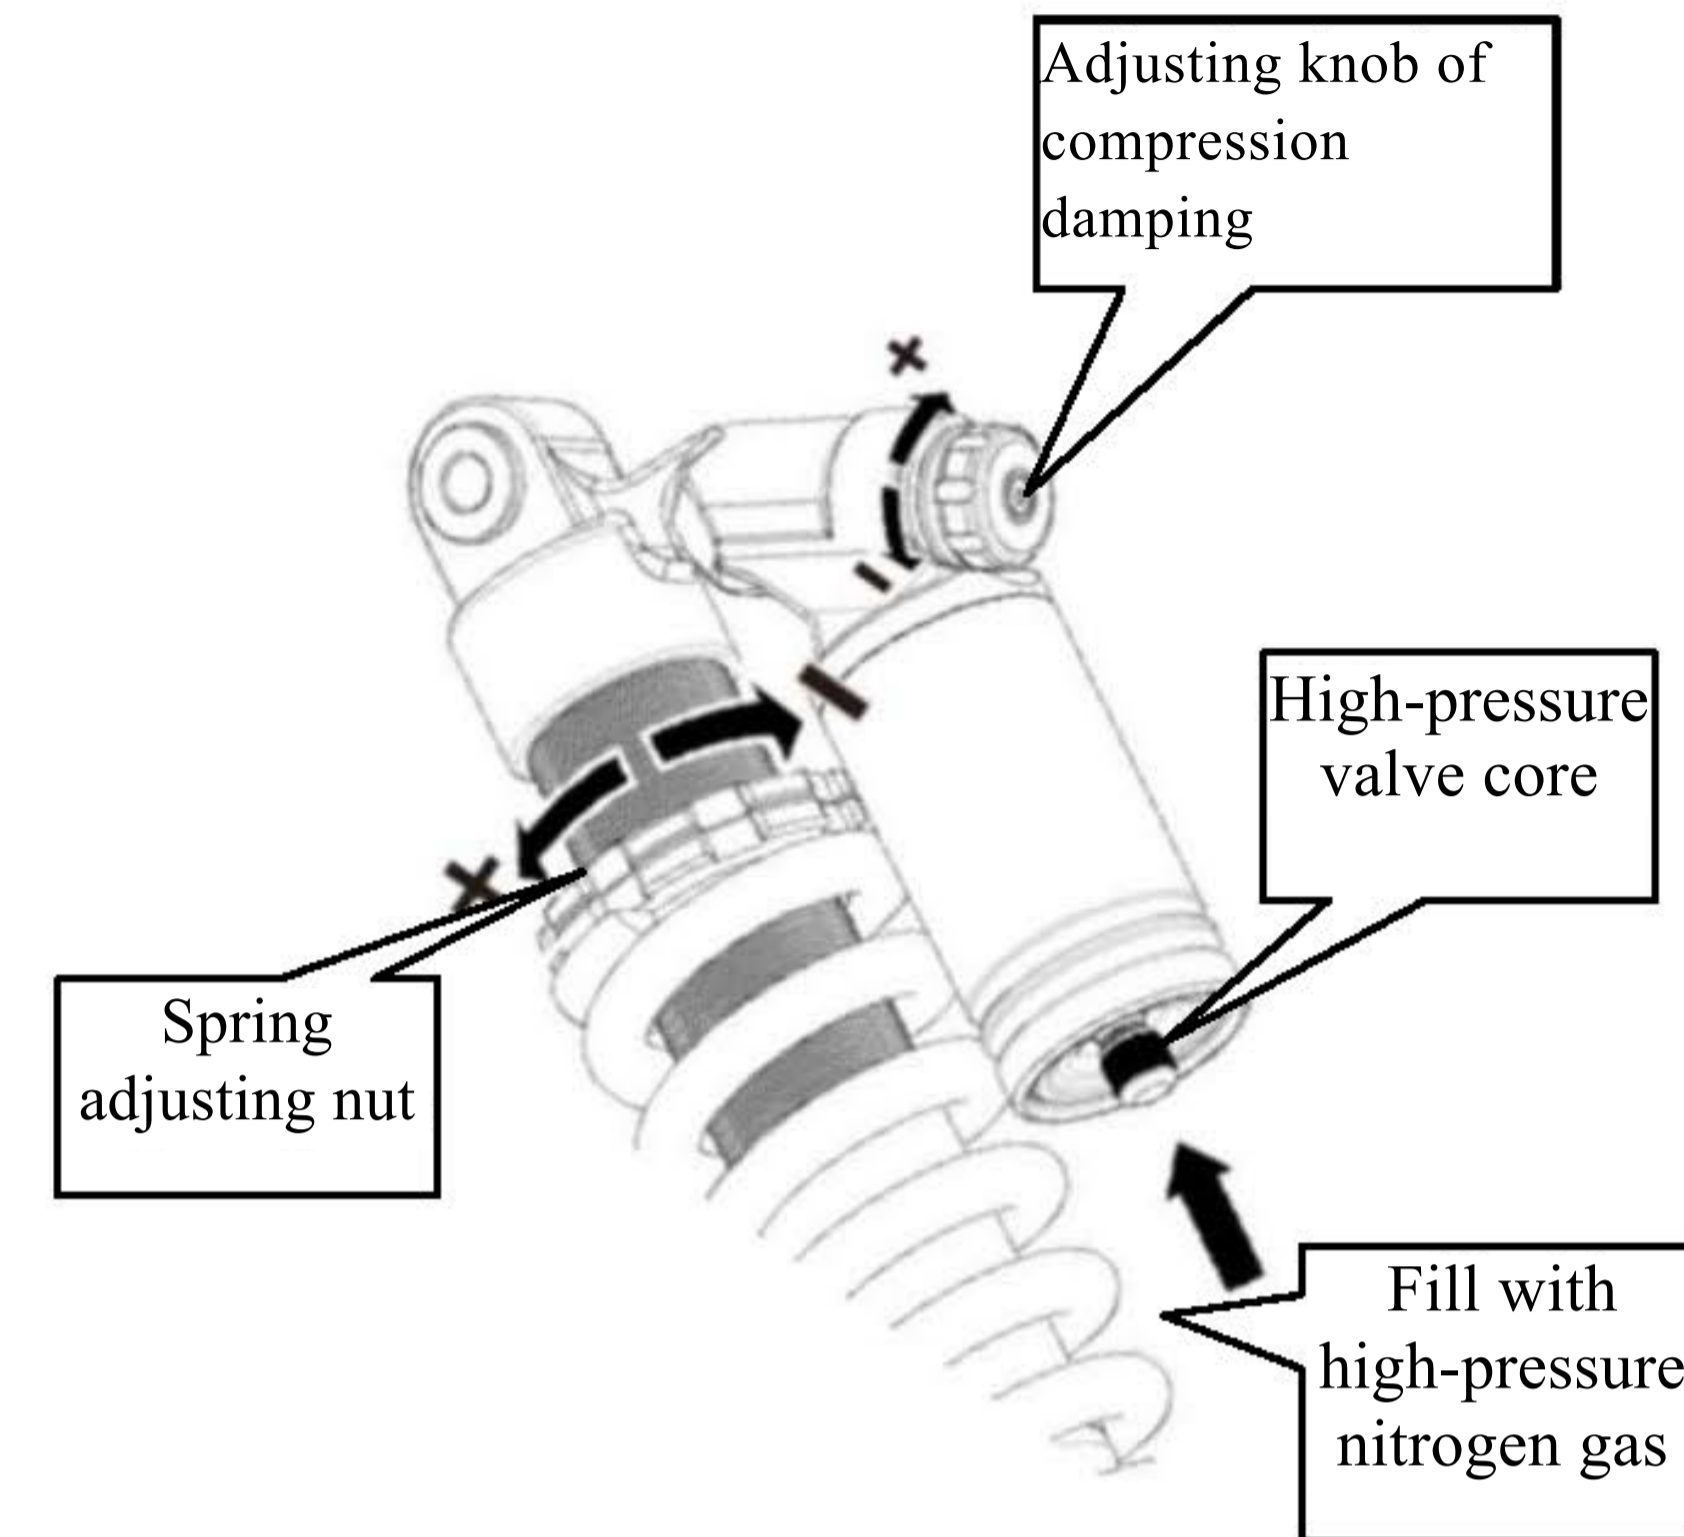

Fig. 2
As shown in Figure 2, the damper assembly is equipped with a valve core inflator at the bottom, and a special shock absorber pump can be used to fill the air chamber with high-pressure nitrogen or air through the valve core. The inflation pressure is adjusted and set according to the rider's weight, habits and road conditions.
- As shown in Figure 2 on Page 31, the compression damping can be adjusted by rotating the blue adjusting knob of compression damping on the upper fixing base of rear shock absorber.
As shown in Figure 2, the customized special claw wrench can rotate the spring adjusting nut forward and backward to change the preload height of the spring and thus adjust the support force of rear shock absorber.
- The EMMO CAOFEN-F80 airbag inflation pressure is set to 100PSI as shown in Figure 2.